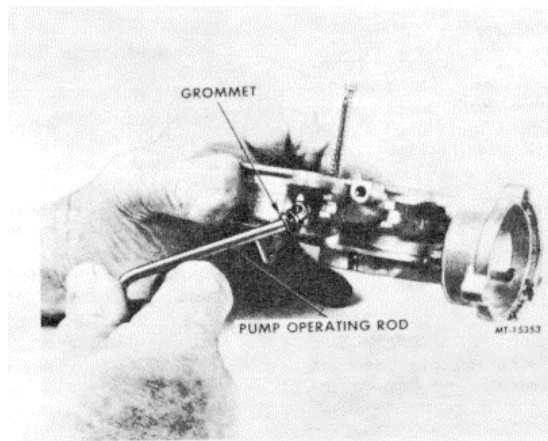

FIG. 11. Remove or Install Accelerator Pump Operating Rod and Grommet
6. Rotate the pump operating rod and remove the rod and grommet from the bowl cover (Figure 11).